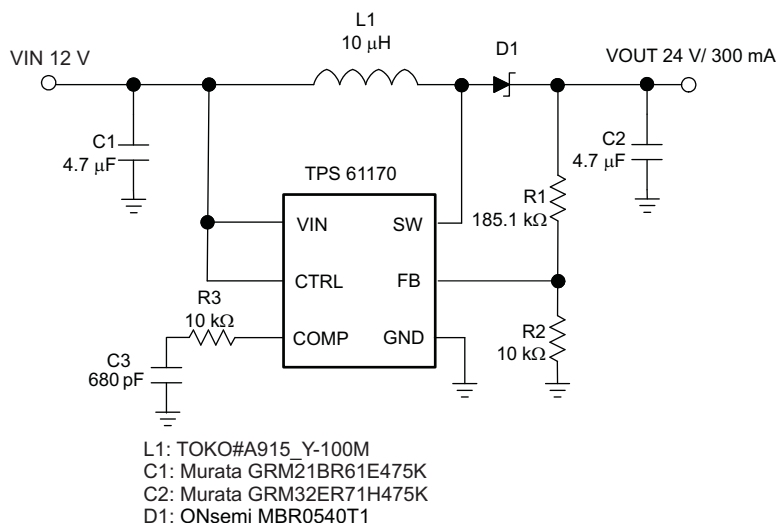
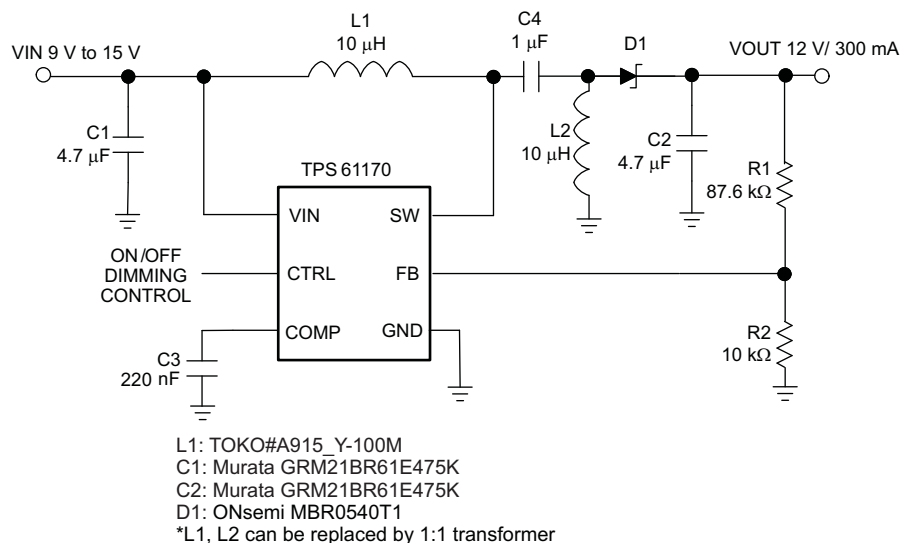
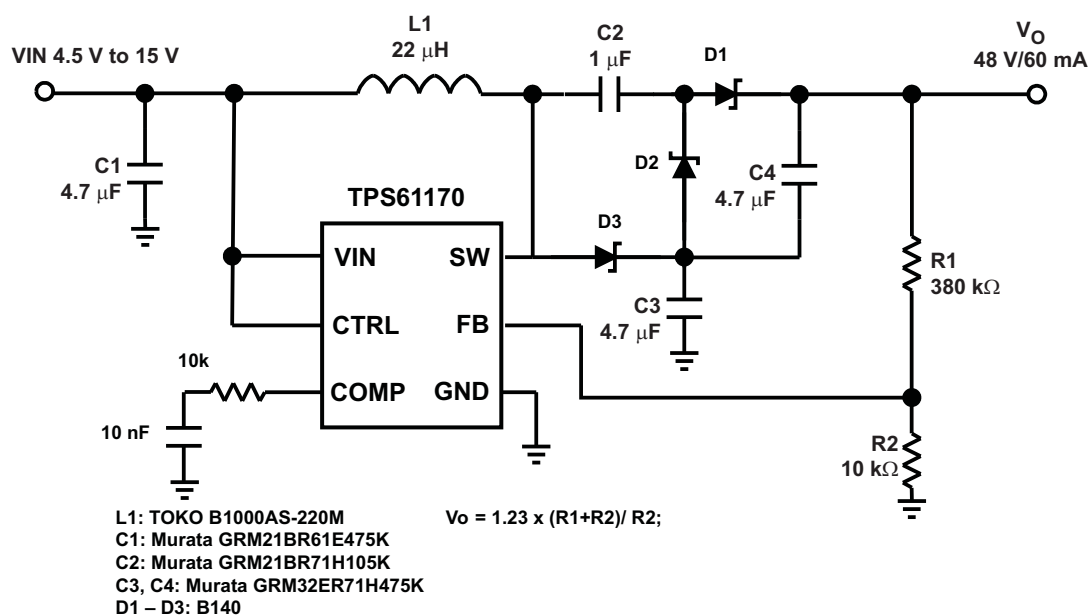

Figure 19. 12V to 24V DCDC Power Conversion
Figure 21. 12V SEPIC (Buck-Boost) Converter
Figure 22. 48V Phantom Power Application Circuit
• Changed C1 part number in Figure 19 , Figure 21 , and Figure 22 from "GRM188RA475K " to "GRM21BR61E475K" 19